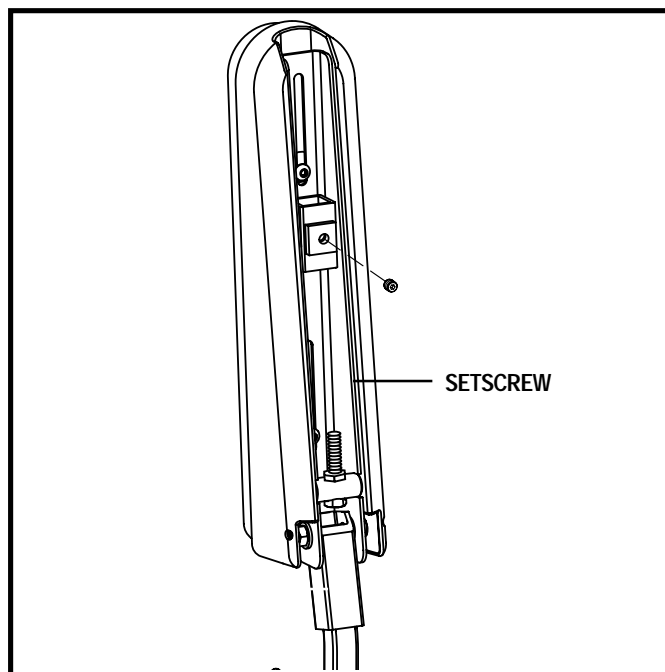

Figure 24. Underside of Armrest
4. Flip up the armrest and loosen the setscrew. See figure 24.